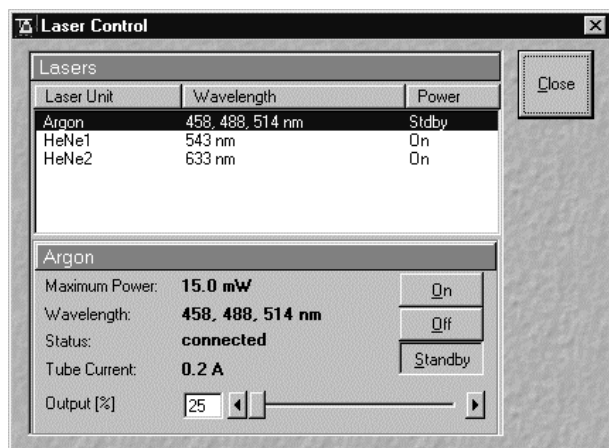

Fig. 3-10 Laser Control
- You will see a **Laser Control** window with a list of available lasers (Fig. 3-10). Your screen may differ from the one displayed.